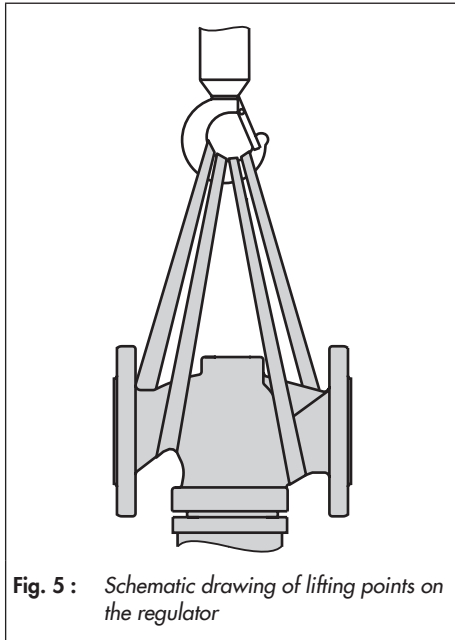

Fig. 5 : Schematic drawing of lifting points on the regulator
1. Attach one sling to the body flange and one sling to the rigging equipment (e.g. hook) of the crane or forklift (see Fig. 5).
We recommend using a hook with safety latch (see Fig. 5). The safety latch prevents the slings from slipping during lifting and transporting.